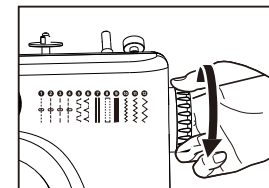

Fig.10
7. When you finish the sewing, turn off the switch, unplug the adaptor, turn the hand wheel to raise the needle all the way up, lift the presser foot, and then gently remove the fabric from the sewing machine, and cut the thread with the thread cutter. (Fig.10).